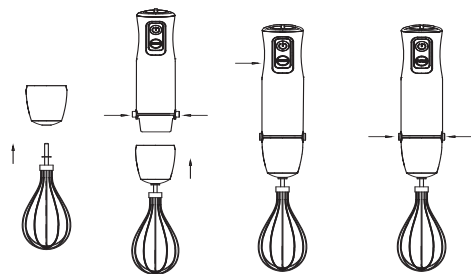

Abb. 3
- Insert the whisk attachment (7) into the whisk gear (6).
- Insert the whisk gear (6) into the motor unit, make sure that the gear (6) and the whisk (7) are fixed properly (fig. 3).
- Immerse the whisk attachment (7) into a suitable bowl with food. You can put the foodstuffs into the cup (11).
- To switch the unit on, press and hold down the button (4) «⏻».
- When you press and hold the button (4) «⏻» you can control the attachment rotation speed
- by turning the control knob (5).
- For operation at the maximal rotation speed, press and hold down the button (3) «TURBO».
- After you finish using the unit, disconnect the power plug from the mains socket, disconnect the whisk gear (6) from the motor unit.
- Remove the whisk attachment (7) from the gear (6).